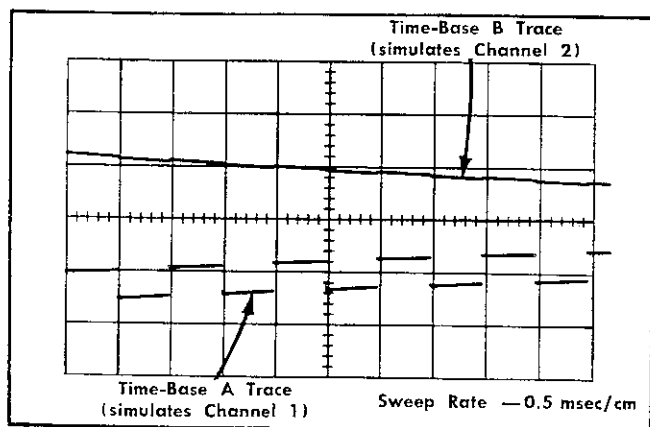

Fig. 2-1. Alternate-sweep slaving check.
- Check that 0.5 cm of the Calibrator waveform is displayed when Time Base B is generating its sweep (lower trace), and that 1 trace width of the Calibrator waveform is displayed when Time Base B generates its sweep (upper trace). Fig. 2-1 shows the oscilloscope display.